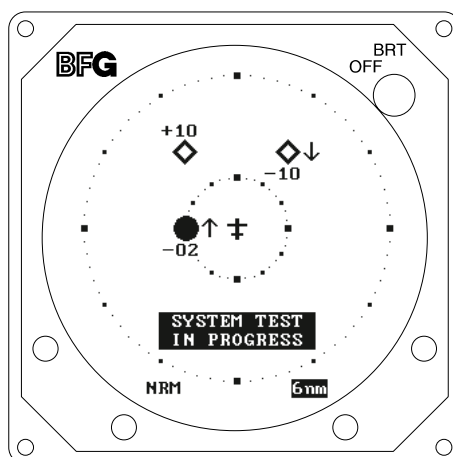

Figure 3-5. Self Test Screen
3. After approximately thirty seconds, observe the STANDBY screen and then press the TEST button (soft-key (1)).
4. The display should present a screen similar to that shown in figure 3-5.